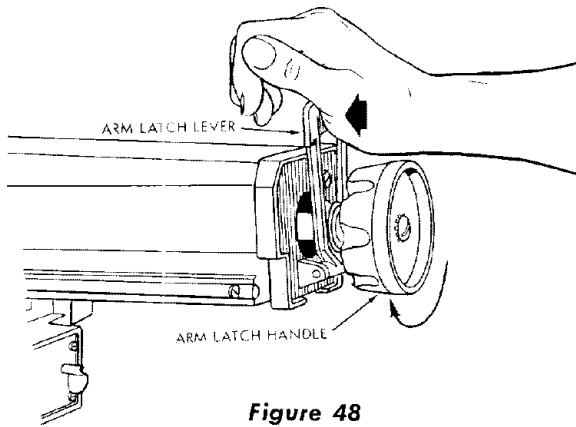

Figure 48
(2) Move the radial arm into the desired index position (do not bump or jar it) and push on the arm latch lever (1, figure 46) solidly with the palm of the hand. (See figure 48). This is very important as it insures proper seating of the arm lock pin in the arm latch, thus always returning the arm to the correct position.
Experienced operators of precision equipment, such as this Craftsman Radial Saw, normally acquire the habit of indexing the machine in one direction only, whenever a new setting is made in preparation for a different operation. For example: when moving the radial arm to a new position, it is advisable to move it slightly past the desired index position, then return it slowly and carefully to latch and lock it. Figure 48 shows the radial arm being securely indexed by "tapping" it with the palm of the hand. Swivel indexing and bevel indexing can be accomplished in a similar manner. This indexing technique tends to neutralize any stresses imposed upon saw components and contributes to the high degree of accuracy the saw is capable of producing when operated expertly.